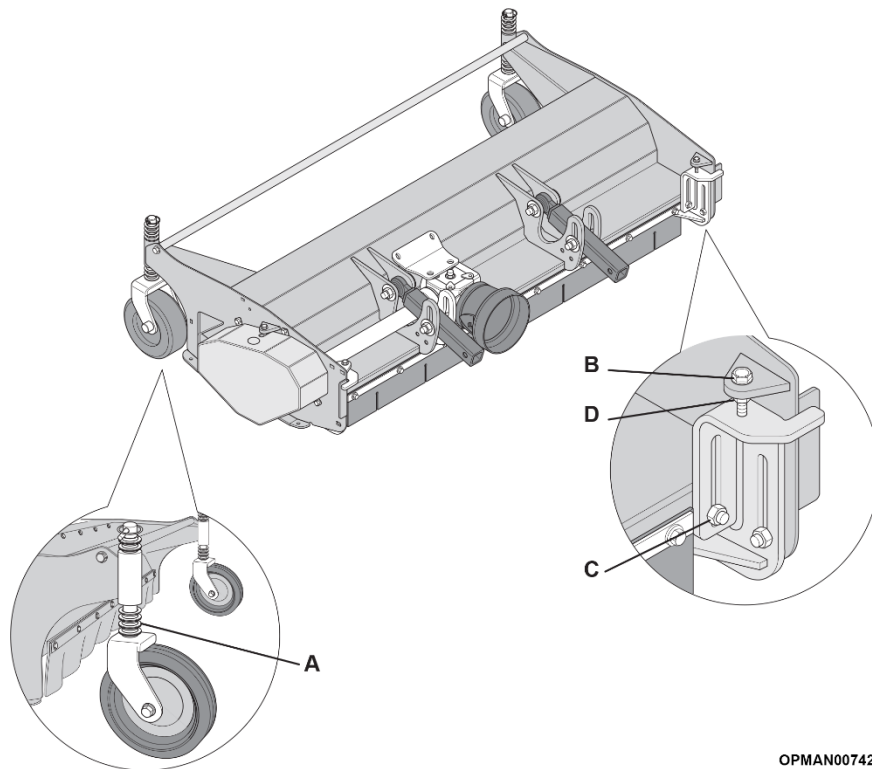

Figure 8
- Move the spacer on the front guide wheels (A) (Fig. 8) and adjust the height of the roller.
- To adjust the height of the roller, unscrew the nut (C) and (D) and turn the bolt (B) until the desired height is reached.
- Adjust the working height so that the blades are at about 3-4 cm from the terrain. When adjustment has been completed, remember to tighten the nuts (C) and (D).